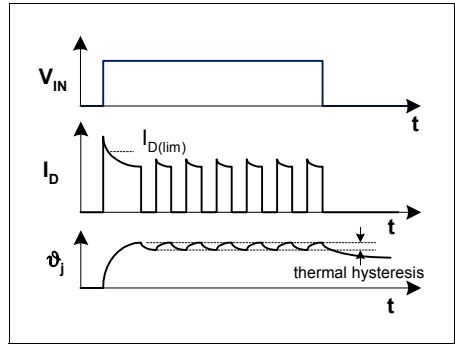

**Figure 7 Inductive and Over voltage Output Clamp**
1) See also Figure 7 and Figure 10.